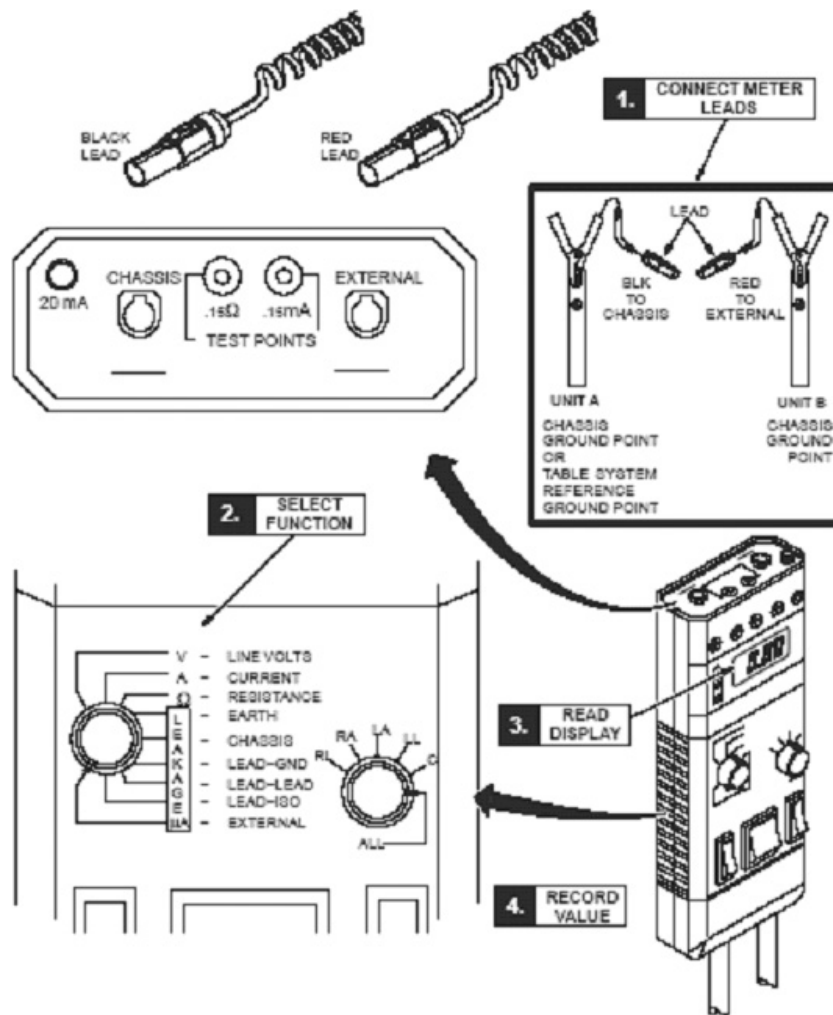

Figure 5-9 Using Dale 600 to Measure Leakage Current
- 3.) Refer to the Dale 601 Operator’s Manual for instructions on the use of the Dale 600 meter for measuring leakage current (or refer to Figure 5-9, for a quick overview)
Note: For more detailed information, refer to the Dale 600 / 601 Operator's Manual or see Figure 5-9, for a quick overview.